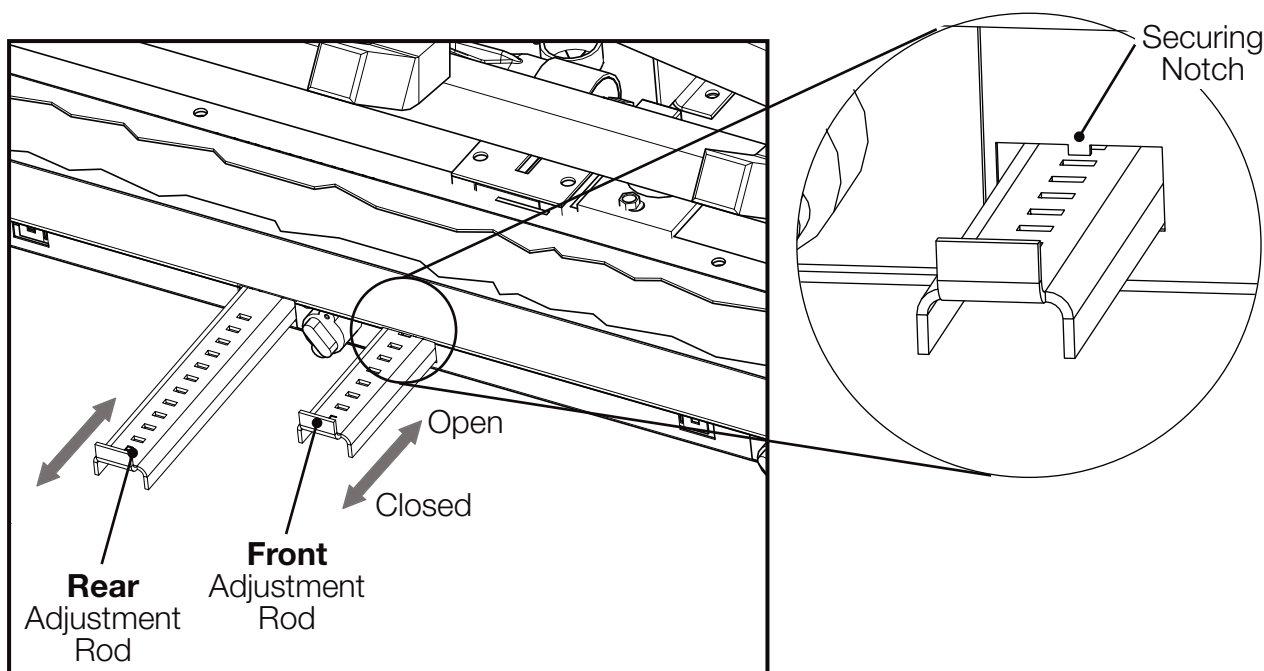

Fig. 1
Fine air adjustments should be made using the levers to achieve the desired flame (**FIG. 1**).
- A.** Position the adjustment rod into the middle of the opening to disengage it from the securing notches (**Fig. 1**).
- Remove the 4 screws securing the log support assembly. Remove and set aside **(Fig. 1)**.